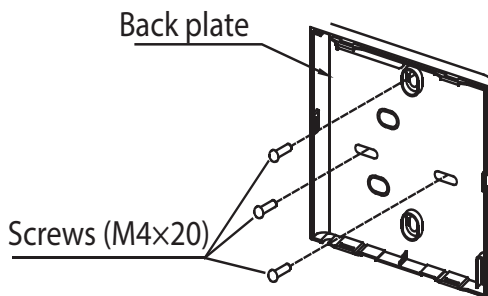

Fig. 7 – Flush Mounting
2. For switch box mounting, fasten the back plate on the switch box with 2 screws (M4x25) and fasten it on the wall with 1 screw (M4x20) (see Fig. 7).